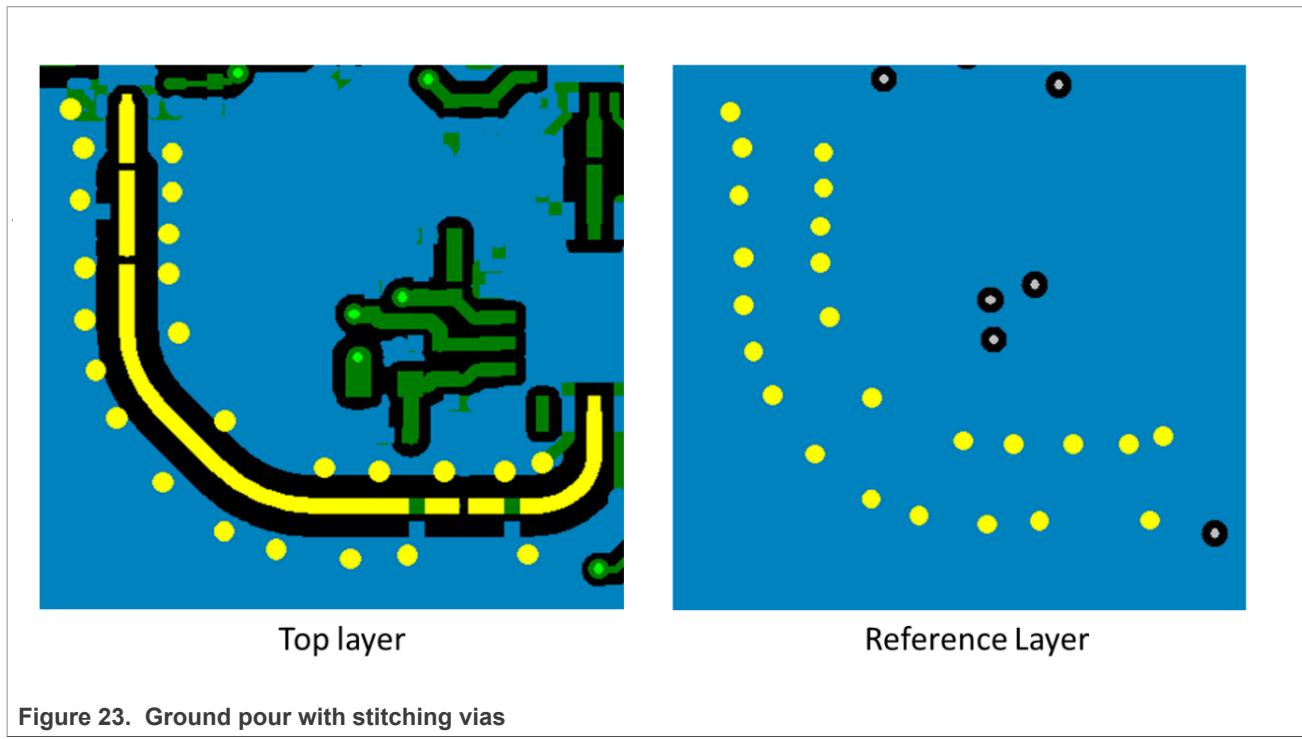

Figure 23. Ground pour with stitching vias
- Place stitching vias between the top and reference ground layers to increase isolation as shown in Figure 23.